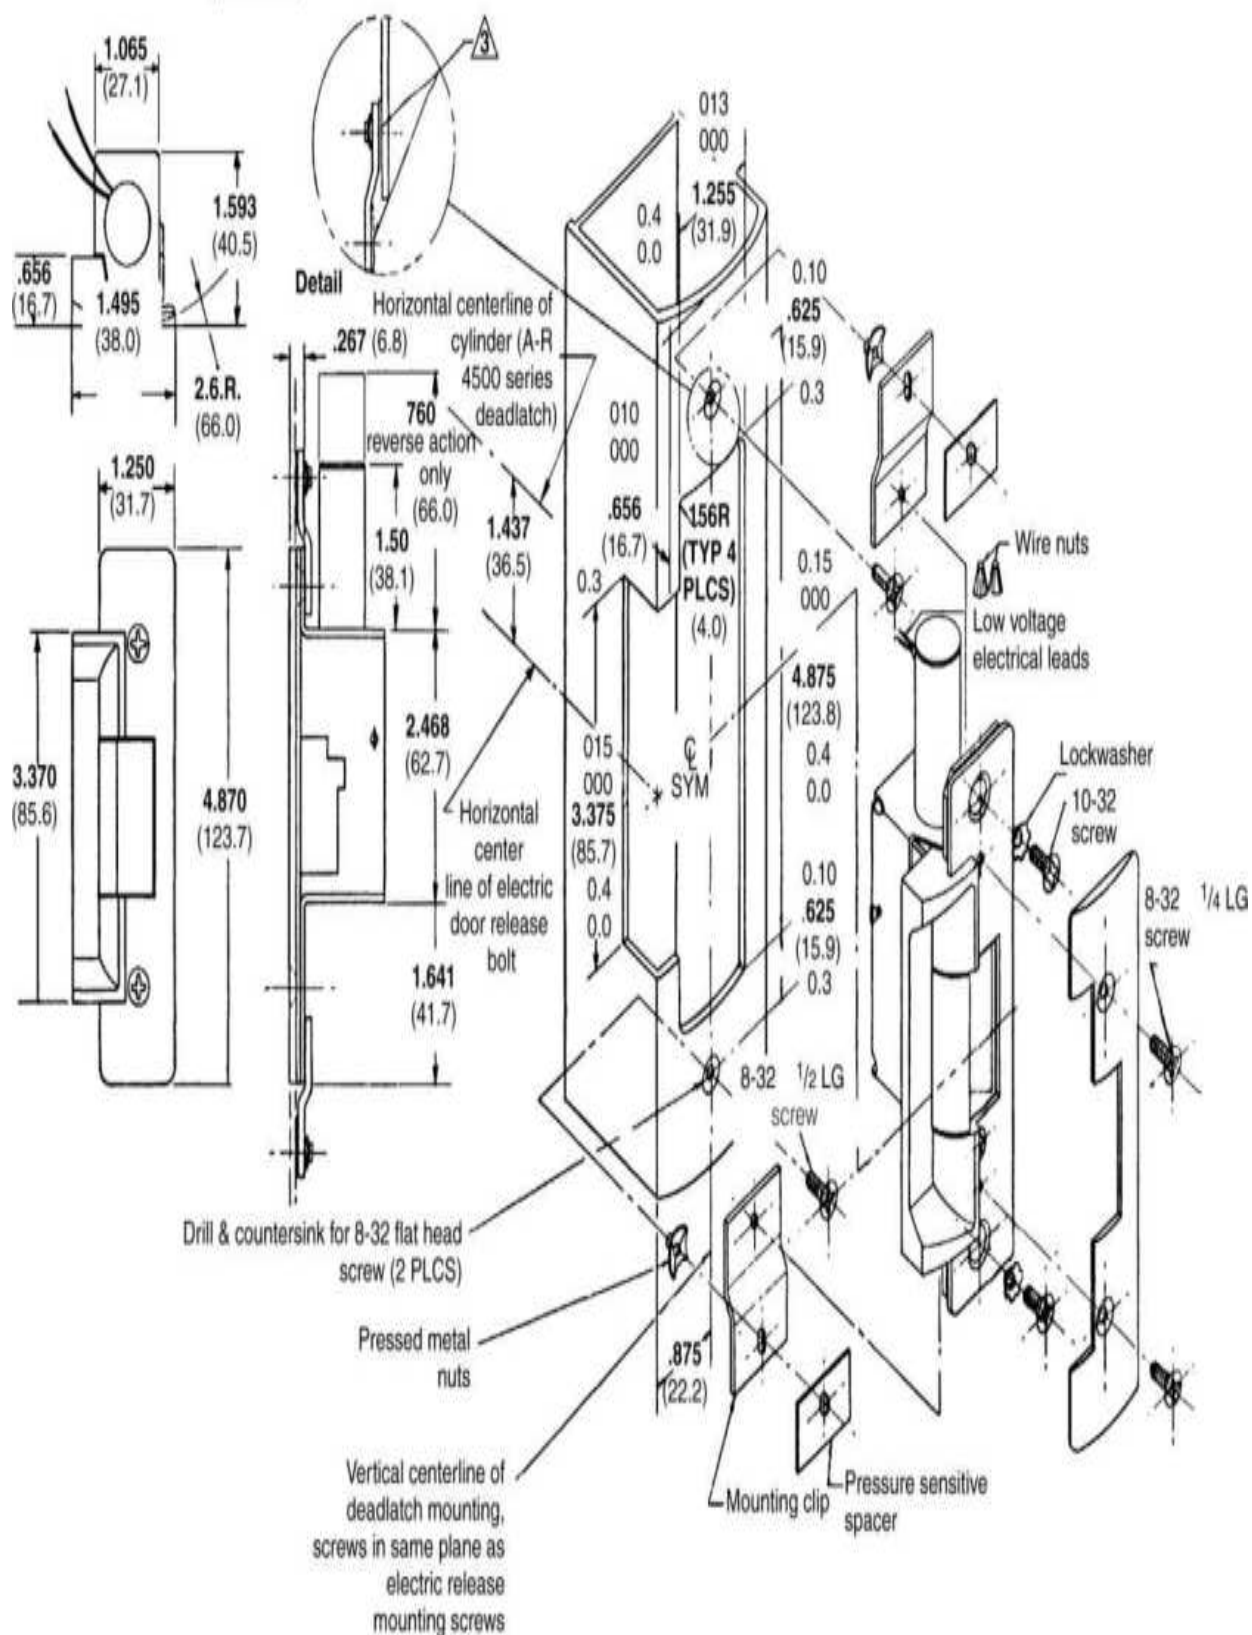

**Figure 19.2** Jamb specifications and installation details for a radial (curved) aluminum door jamb. (*Adams Rite Mfg. Co.*)
1. Prepare the door jamb per Fig. 19.2 .
3. Spacers are provided to assure flush final assembly of the faceplate and jamb. Add one or more spacers between the jamb and mounting clip when the faceplate extends beyond the jamb. When the faceplate sets inside the jamb, you must add spacers between the mounting clip and the electric strike case. See detail "A" in Fig. 19.2. To attach spacers to the mounting clip, remove the protective coating from the spacer and press to the desired mounting clip surface. Make sure the clearance hole in the spacer aligns properly with the hole in the mounting clip.
Figure 19.2 also shows the dimensions of the electric door release that would be installed in the aluminum jamb.